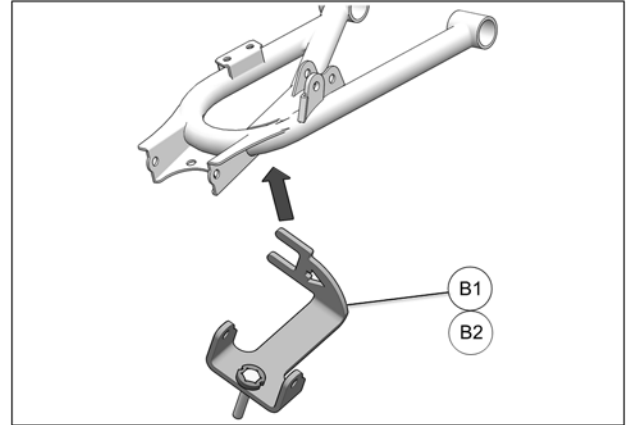

Fig. 7
6. Position anchor bracket (B1-B2) under suspension arm. See Fig. 7